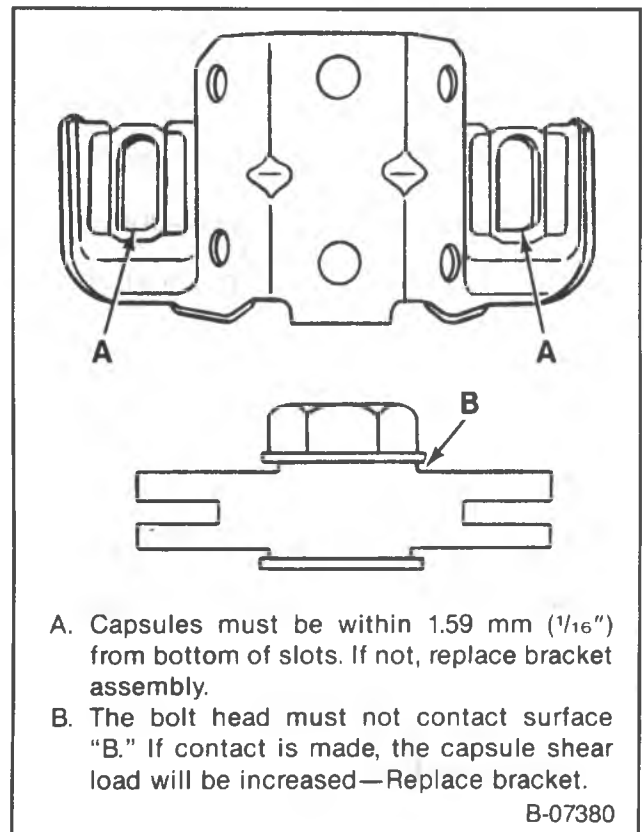

Figure 1 — Steering Column Collapse Inspection
Inspect (Figures 1 through 3)
1. Capsules on the steering column bracket assembly. The capsules must be within 1.59 mm (1/16-inch) from the bottom of the slots (figure 1). If not, the bracket should be replaced.
2. Contact surface (figure 1). The bolt head must not contact surface "B" or the shear load will be increased. If contact is made, replace the bracket.